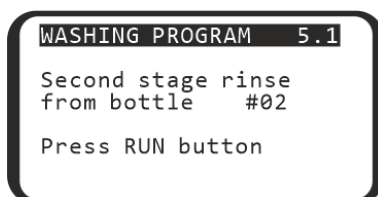

Figure 13. Second bottle confirmation
5.9.3. If the operation requires washing on two channels (parameter **On two channels** set to **YES**), then after starting the program, unit requests the confirmation of the correct bottle number for second wash (figure 13). Select the necessary bottle number using **+** and **-** keys and press the **►/■** key.